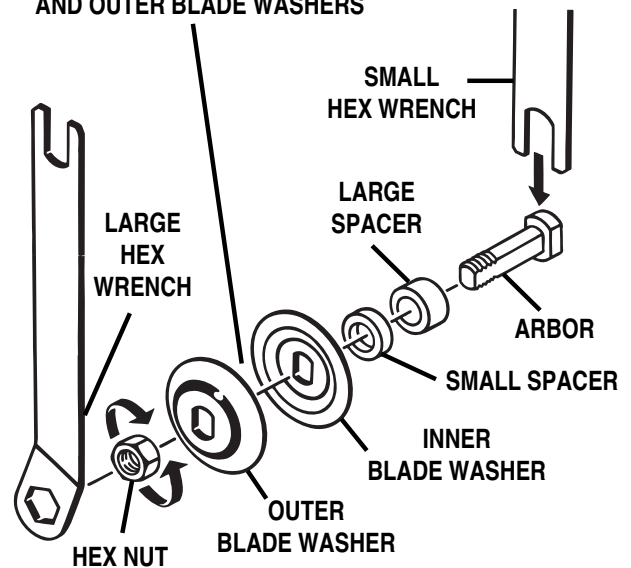

Fig. 2: Arbor, Spacers and Washers
- Place the open end of the small hex wrench into the slot to the right of the blade. The wrench will fit over two flats on the arbor (blade shaft). See Figure 2.